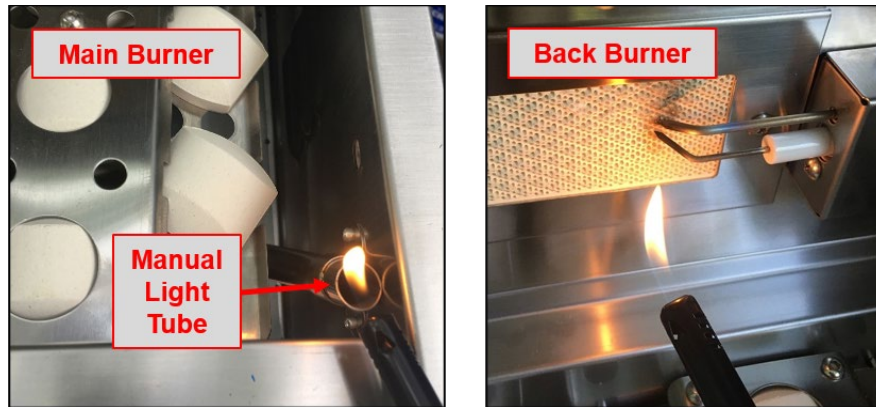

Figure 29 Manually Light the Grill
A manual lighting tube is provided (Figure 29, left) for use in case the ignitor stops working. The tube is located at the front right corner of the grill box.
1. Main Burner – Position a burning long match or lighter flame at the top of the manual lighting tube (Figure 29, left); push in the right-hand burner knob, hold for 2-3 seconds, and rotate counterclockwise to HI; ensure the burner ignites and stays lit; light the other main burners normally, going from right to left
2. Back Infrared Burner – Reach from the side of the grill to position a burning long match or lighter flame near the back burner gas vent (Figure 29, right); push in the rear burner control knob, hold for 2-3 seconds, then rotate counterclockwise to HI; ensure the burner ignites and stays lit